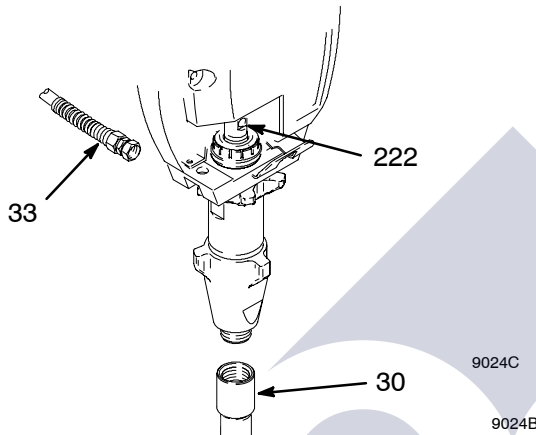

Fig. 9
2. Fig. 9. Cycle pump with piston rod (222) in lowest position.
4. Fig. 9. Remove suction tube (30) and hose (33).